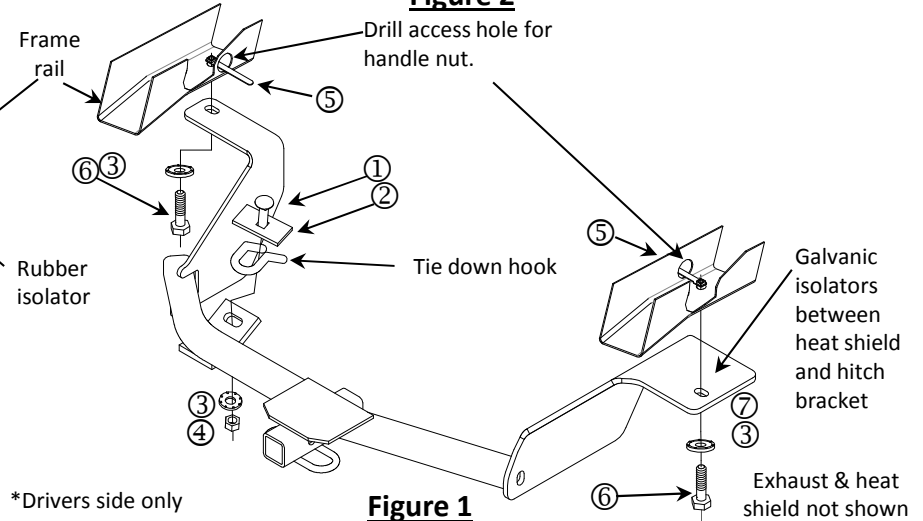

Figure 1
- Install the 1/2 carriage bolt and spacer as shown in Fig 1., to the tie down hook.
- Apply the clear galvanic isolators to the passenger side bracket as shown. Fig 1
- Raise the hitch into position and install conical washer and nut to tie down attachment, do not tighten down at this point. Fig 1.